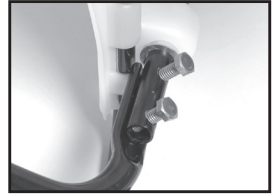
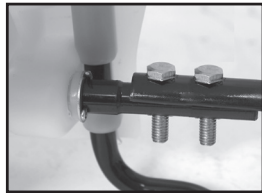

Figure 3
Figure 5
The pump handle can be mounted on either side of the pump shaft (A). To install the pump handle place the handle (C) over the shaft (A) aligning the pump handle holes and shaft holes. Slide the bolts (B) through the aligned holes as shown in figure 3. Tighten nuts (D) to bolts. There are holes in the pump handle to allow for either left (fig.2-4) or right (fig.5) hand mounting.